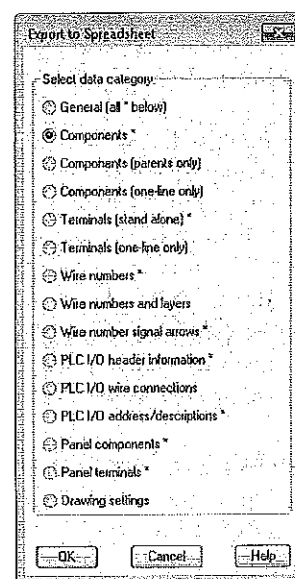

Figure 13-46 The Export to Spreadsheet dialog box
1. Choose the **To Spreadsheet** tool from the **Export** panel of the **Import/Export Data** tab; the **Export to Spreadsheet** dialog box is displayed, as shown in Figure 13-46.